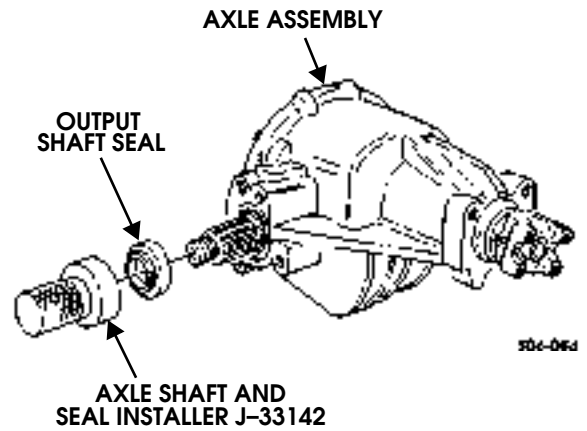

Figure 9-102: Output Shaft Seal Installation
67. Using axle shaft and seal installer J-33142, install output shaft seals in axle assembly (Figure 9-102).